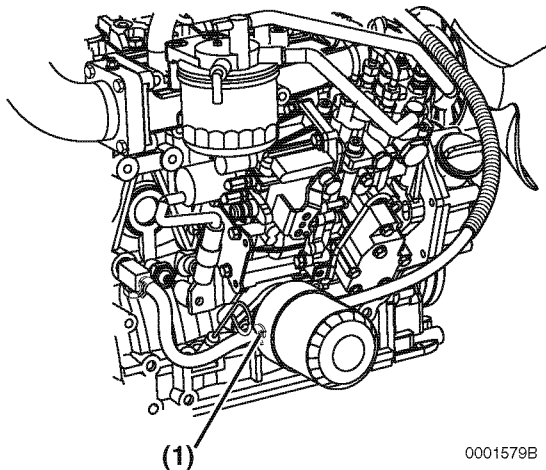

Figure 5-18
- On models equipped with an oil cooler, remove the coolant hose (Figure 5-18, (1)) at the oil cooler.